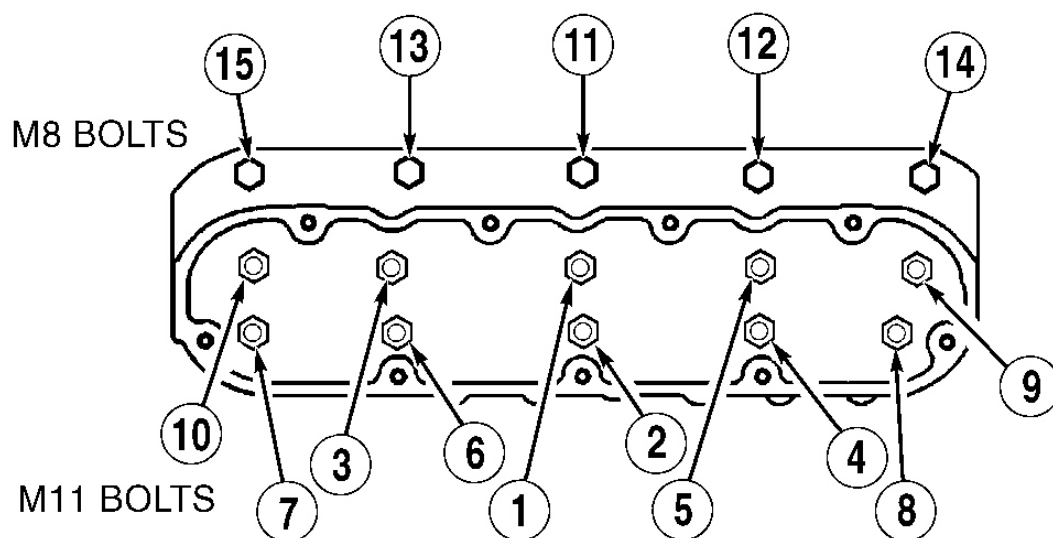

Fig. 5: Cylinder Head Bolt Tightening Sequence
CAUTION: DO NOT reuse the M11 cylinder head bolts. Install NEW M11 cylinder head bolts during reassembly. See Fig. 5 .
2. Install NEW M11 cylinder head bolts. Apply a 1/4 inch band of Threadlock (12345493) to threads of the M8 cylinder head bolts. Tighten M11 bolts to 22 ft. lbs. in sequence. Tighten M11 bolts an additional 76 degrees in sequence. Tighten M11 bolts 1-8 an additional 76 degrees in sequence, and M11 bolts 9 and 10 an additional 34 degrees. Tighten M8 bolts 11-15 in sequence to 22 ft. lbs. See **Fig. 5** . To complete installation, reverse removal procedure. See **TORQUE SPECIFICATIONS** . Fill and bleed cooling system. See **COOLING SYSTEM BLEEDING** .